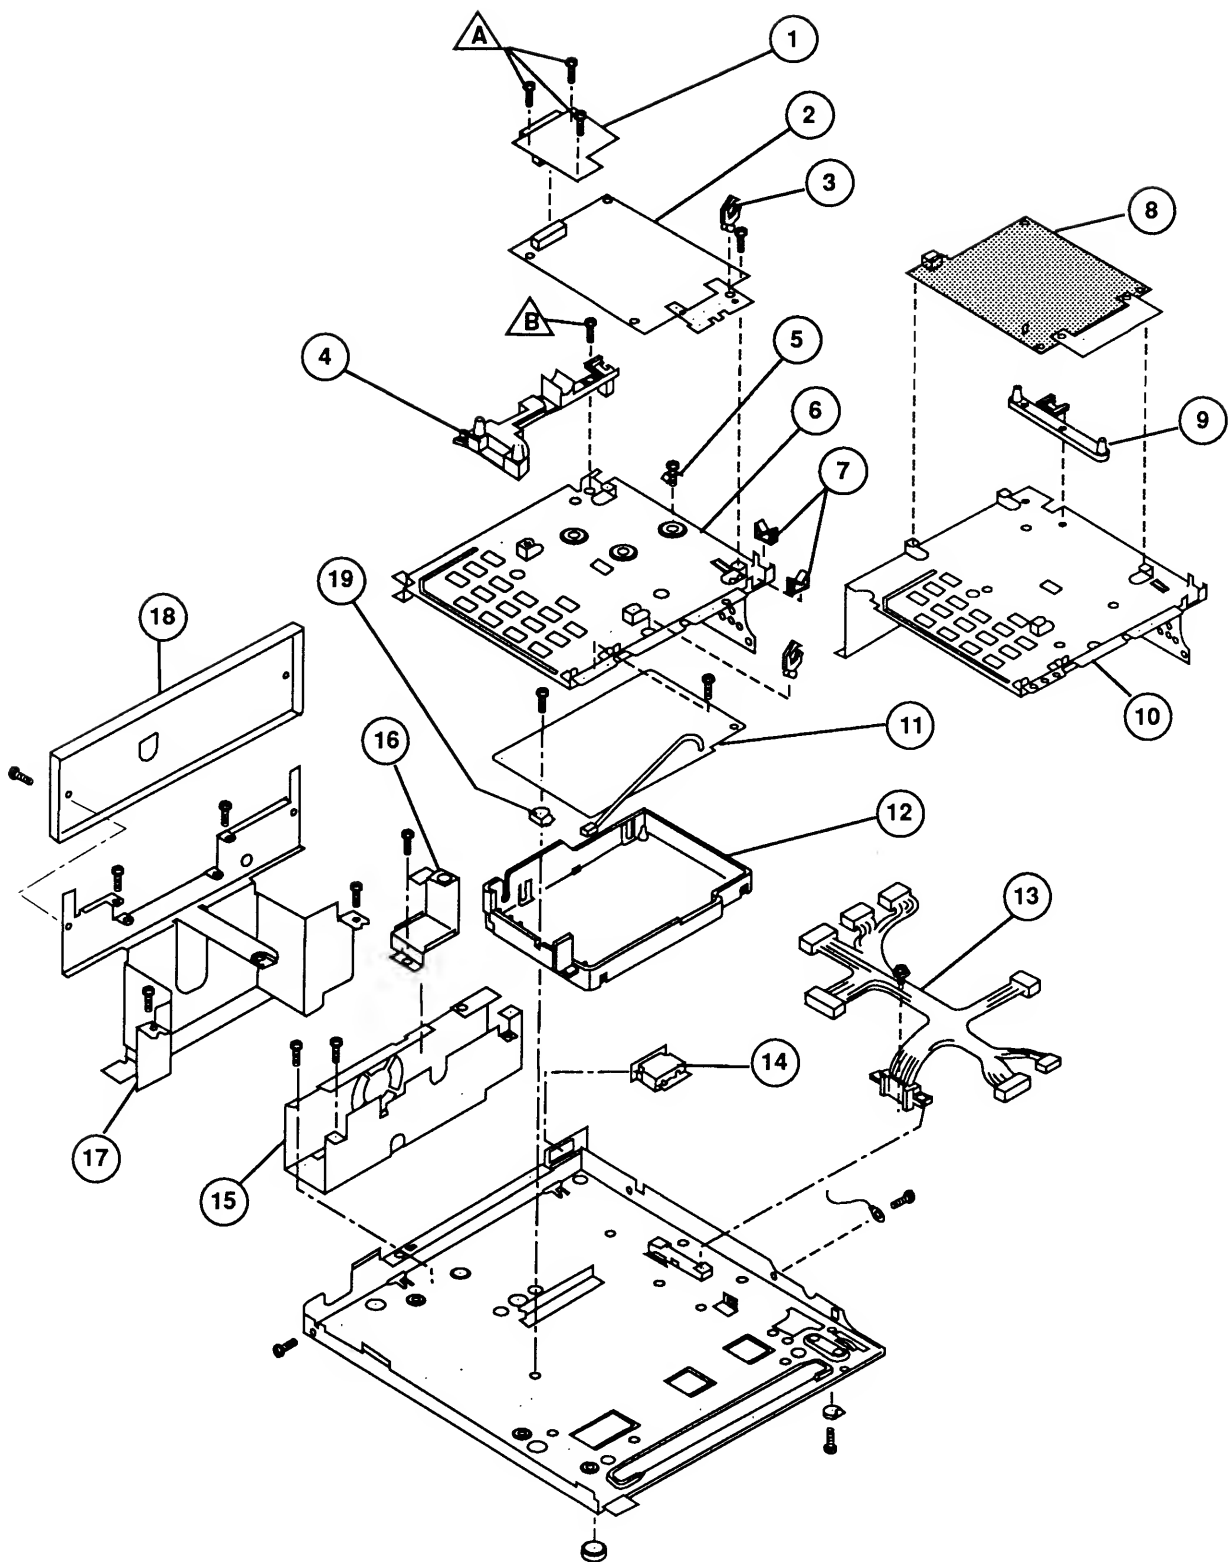

Figure 9
□ BOTTOM PLATE ASSEMBLY (Figure 9)